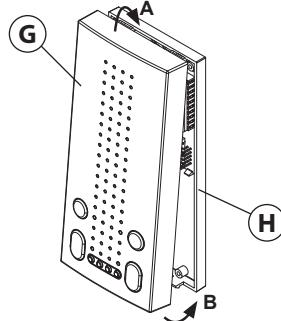

Fig. 6
- Hook the top of the front plate **G** to the top of the back plate as shown by pointer **A** in **Fig. 6**.
To open the intercom once installed, firmly grasp the bottom sides of the front plate cover, pull forward in an upward direction to separate the front cover from the back plate as in **Fig. 6**.